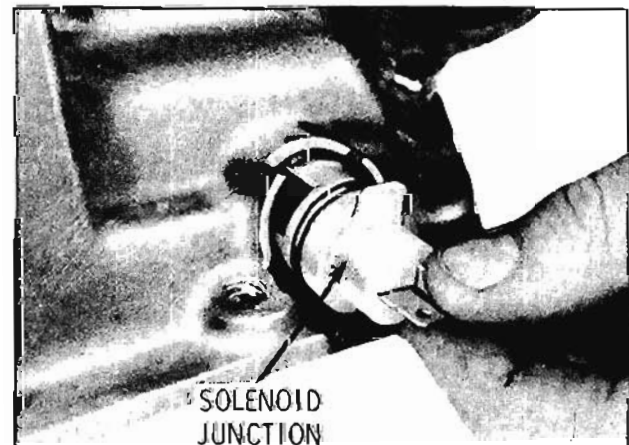

Fig. 6-261 Removing Solenoid Junction
2. Remove solenoid switch from case. Inspect switch "O" ring. If nicked, torn or worn replace. (Fig. 6-261)